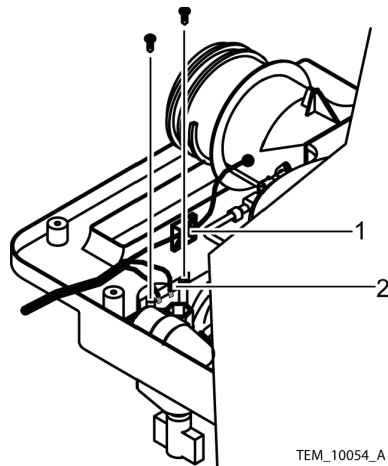

Figure 66. Thermistor Cable Removal
19. Remove the thermistor cable terminal board (Figure 66, item 2).
20. Cut the cable tie securing the thermistor cable to the rear cover assembly (Figure 66, item 1).